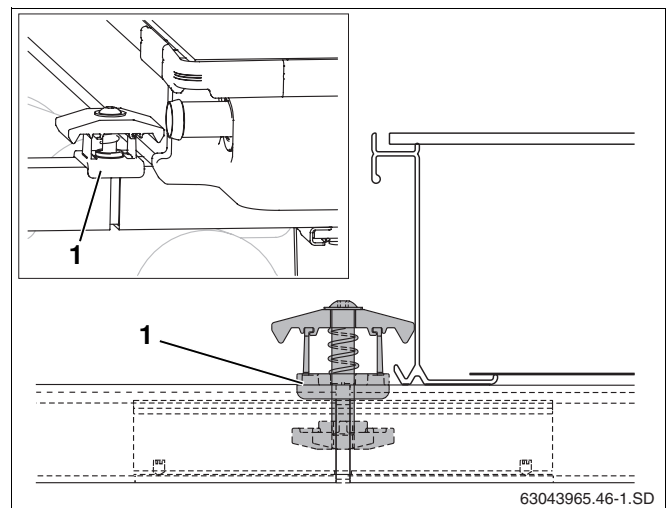

Fig. 45 Fitting a double-sided collector clamp
- Insert the double-sided collector clamp, nut first, into the opening made by the profile rail and plug connector so that the plastic spacer (Fig. 45, **Item 1**) surrounds the profile rail.